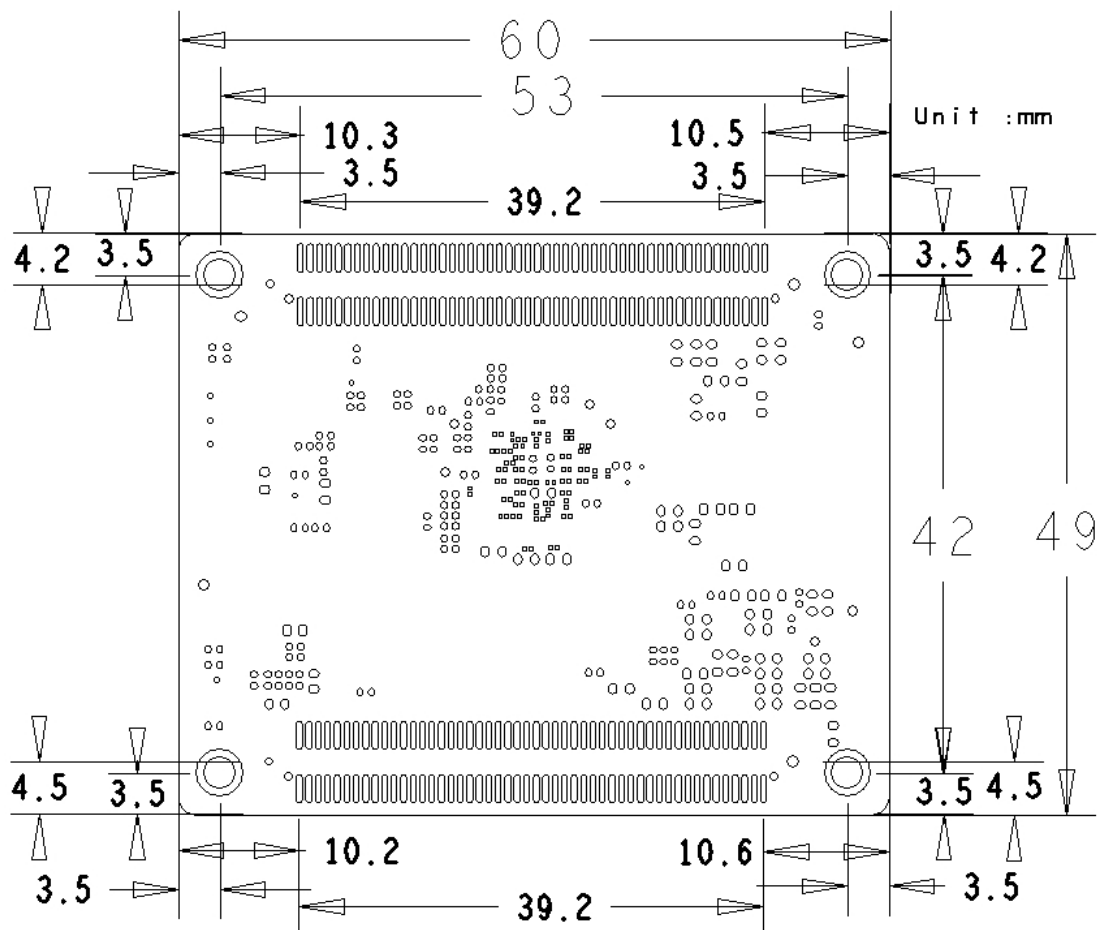

Figure 6-1 MYC-C8MMX Dimensions
- ◆ Interface type: The mechanical dimensions of MYC-C8MMX (in mm) are shown in Fig. 6-1.